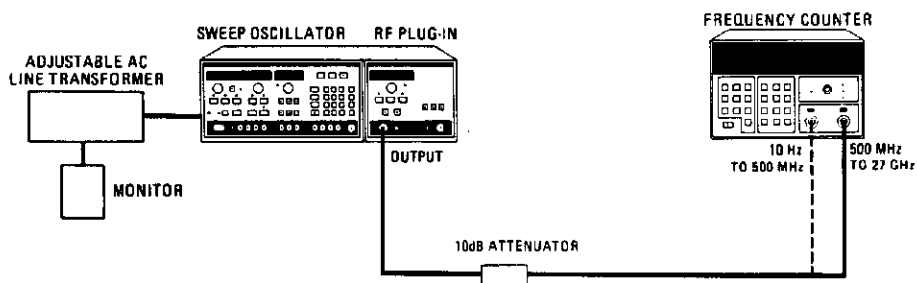

Figure 4-5. Frequency Change with Line Voltage Change
1. Connect equipment as shown in Figure 4-5 and set Model 8350A/B LINE switch to ON.